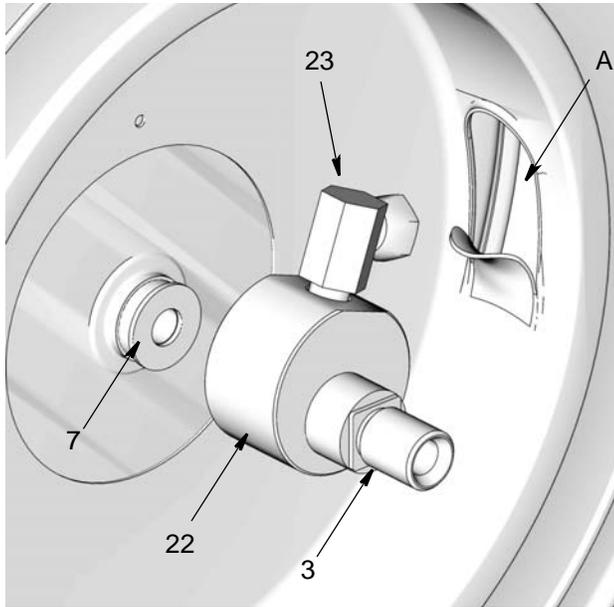

FIG. 9
8. Install swivel assembly (3 / 22 / 23) and washer (7) in spool. Align fitting (23) with opening (A) in side of spool. For hose reel to operate correctly, these parts must be aligned correctly (FIG. 9).